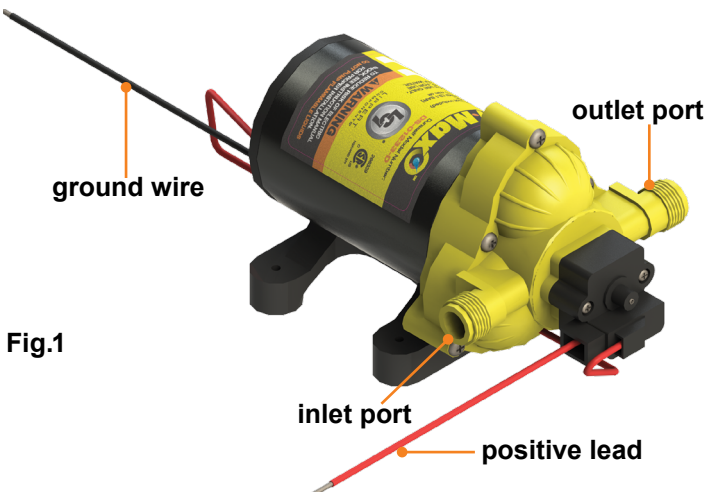

Fig.1
1. Install in-line screen (**Fig.2A**) on the inlet side of the pump (**Fig.1**) to prevent debris from entering the pump.
2. Using the supplied 1/2" swivel connectors (**Fig.2B**) connect flexible, high-pressure hoses to both the outlet port of the pump and the inlet port of the in-line screen (**Fig.1**).
2. Install a 15 amp (ignition protected) switch on the positive lead (red wire) (**Fig.1**). The switch should be mounted in an easily accessible location.